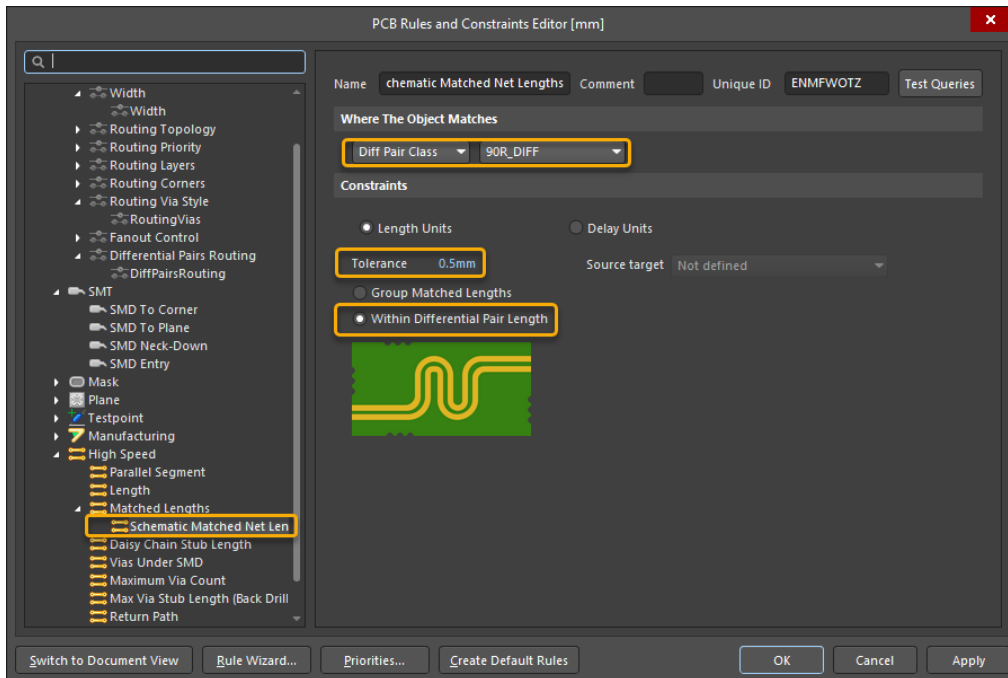

Figure 19. Matched Net Length Rule
31. Expand the *Matched Lengths* rule in the *High Speed* section, and review the Matched Length rule transferred from the schematic. Figure 19